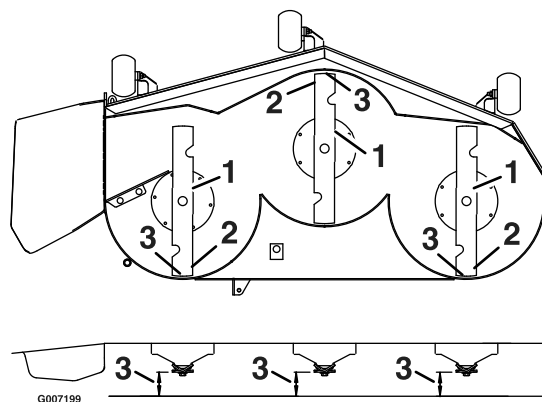

Figure 62
3. Carefully rotate the blades so they are facing front to rear (Figure 62).
4. Measure from the tip of the front blade to the flat surface and the tip of the rear blade to the flat surface (Figure 62).